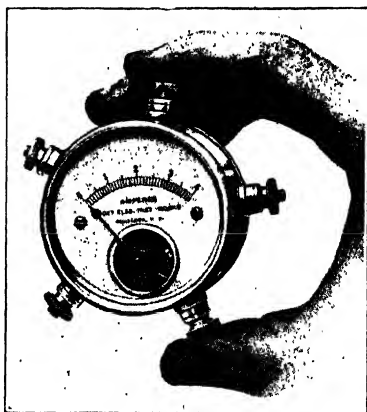

Fig. 139. Hoyt Testing Volt-Ammeter for Automobile Use
*Inspection of Current Supply.* To make certain that erratic operation is not due to failing current supply, a small testing instrument, such as that shown in Fig. 139, should be carried on the car. This is the Hoyt multimeter, which gives an independent ampere and voltage reading by dials on both sides of the instrument. Either may be used separately or both simultaneously. For dry battery testing an instrument with a high reading ampere scale is necessary, that shown being for the current consumption of a battery-operated vibrator coil where economy is essential. Dry cells should test at least 10 to 12 amperes to give an efficient spark, though they will frequently operate on less. An ammeter should never be employed on a storage battery. For this the voltmeter affords the best test. Full instructions for the care of storage batteries are given in the article on "Electric Vehicles".